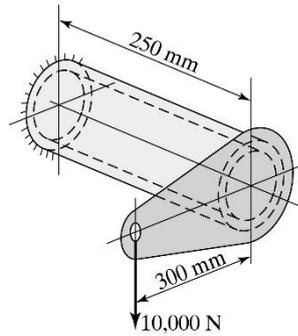

Fig. 6
6. The hollow cylinder in Fig. 6 is fixed at the wall and has an outer diameter (OD) of 150 mm. and an inner diameter (ID) of 113 mm. Stress concentration factor at wall is equal to 3.